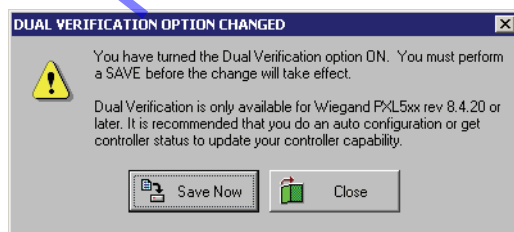

Figure 14-2: Dual Verification Option Changed Window – ON
- Click on the **Dual Verification ON** box. A check mark appears in the box. Because the changes required to implement dual verification make major changes to the *Doors* program and its supporting databases, a confirmation window appears (see Figure 14-2).